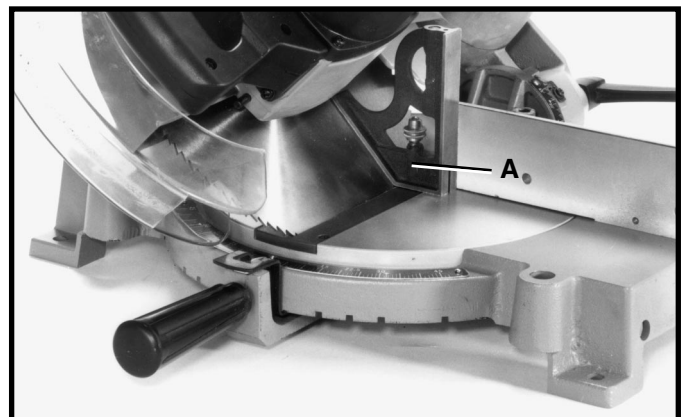

Fig. 23
6. Using a combination square (A) Fig. 23, check to see if the blade is at 45 degrees to the table, as shown.